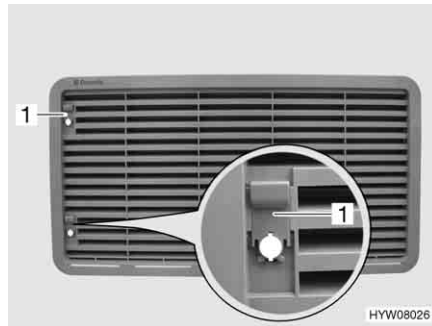

Fig. 120 Refrigerator ventilation grill
- Push sliding trap (Fig. 120,1) upward.